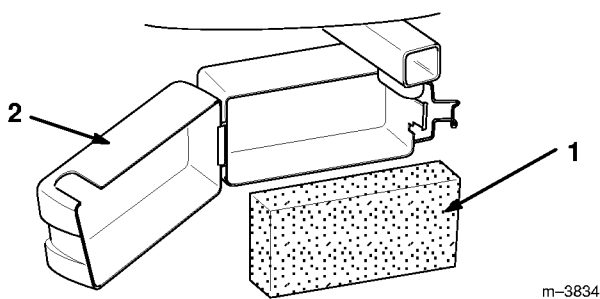

Figure 18
1. Snap air filter cover latch open and swing it to the side (Fig. 18).